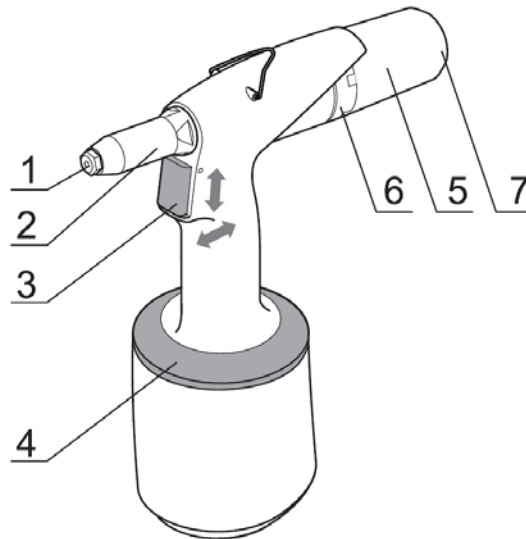

Fig. 1
Put and push the mandrel container /fig.1 - pos.5/ into the ring relief /fig.1 – pos.6/ end-to-end, thus you depress the arrestment element, and turn to position 1 or 2. The mandrel container shall thus be in place. The suction shall initiate in position 2. Relative position of the mandrel container with air outlets /fig.1 - pos.7/ and the ring relief /fig.1 – pos.7/ ensures that the outlet air pressure goes out in a suitable direction (e.g. off ward the operator of the tool).